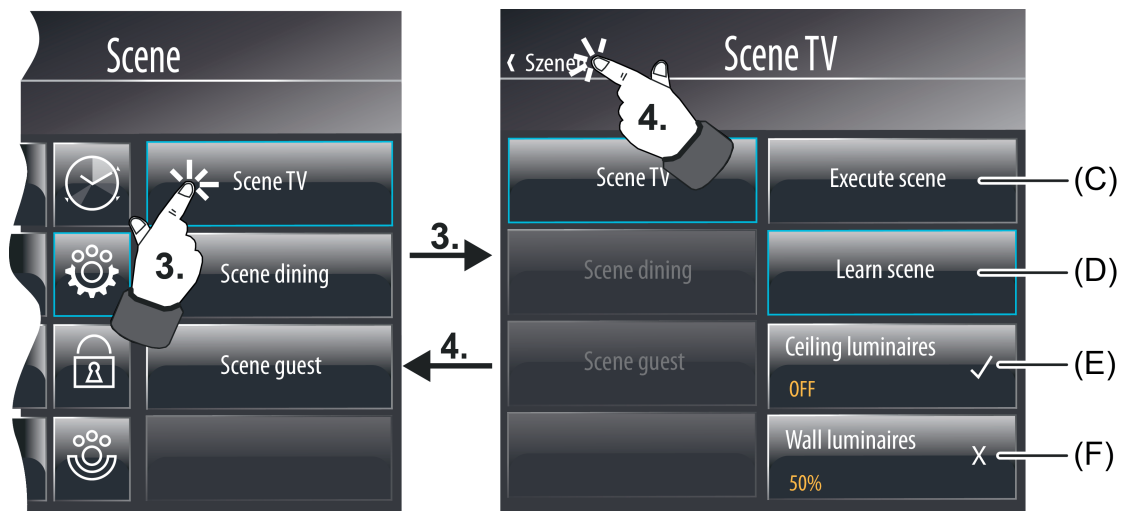

Figure 81: Example of a scene with scene submenu (right)
- (A) Adaptable scenes (operational)
- (B) Non-adaptable scenes (not operational)
If you touch the sensor surface of an adaptable scene with your finger (3), the device branches to the submenu of the scene submenu (figure 81). Two control surfaces are displayed there for recalling the scene (C) and for executing the save function (D). Furthermore, all of the scene functions assigned to the scene are displayed in list form (E+F). If more than 2 functions are allocated, the list can be switched by the sensor surfaces  / . Active scene functions are indicated by the "" symbol (E). Inactive scene functions are indicated by the "" symbol (F).